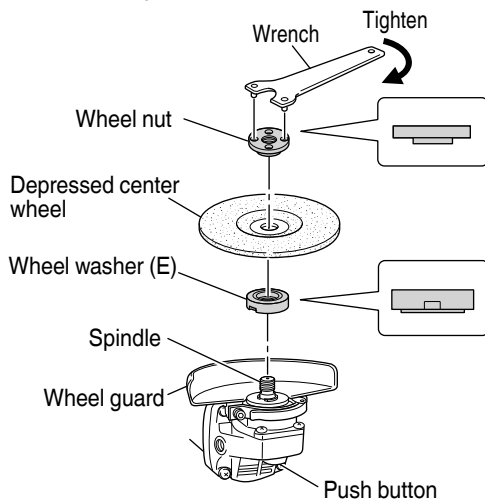

Fig. 14
- Align the oval-shaped indentation of the wheel washer (E) with the notched part of the spindle, then attach them.
- Fit the protuberance of the depressed center wheel onto the wheel washer (E).
- While pushing the push button with one hand, lock the spindle by turning the depressed center wheel slowly with the other hand. Tighten the wheel nut by using the supplied wrench as shown in Fig. 14.